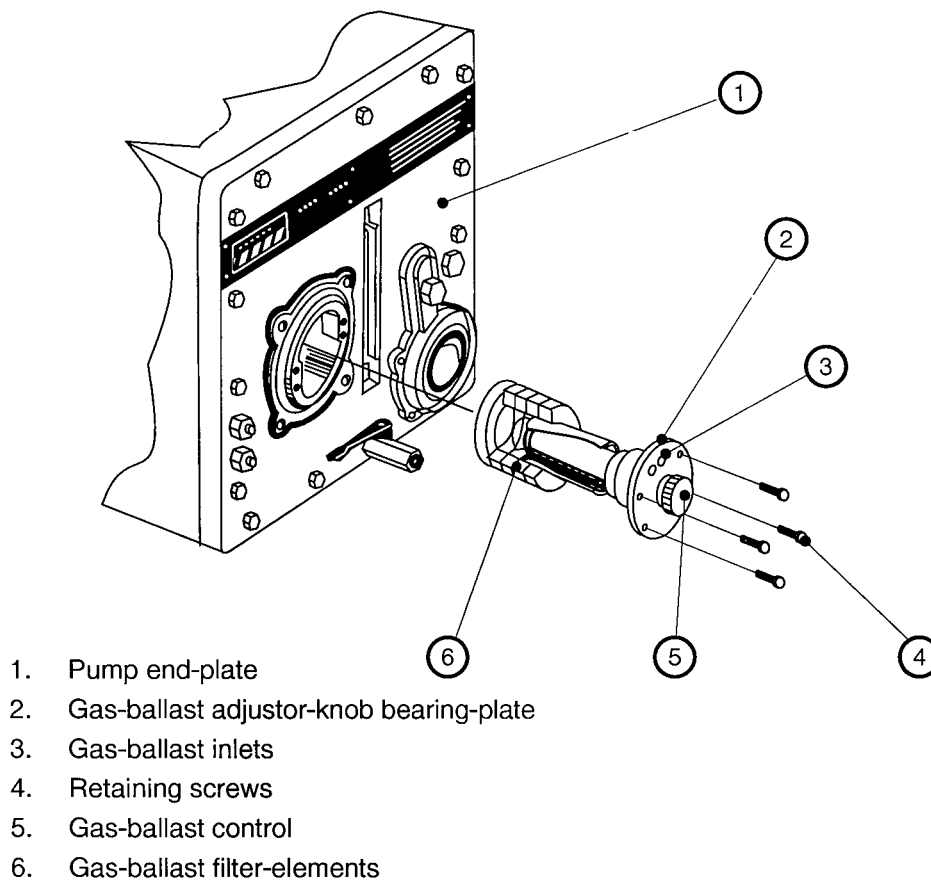

Figure 7 - Remove and replace gas-ballast filter-elements
You must replace the gas-ballast filter-elements every time you change the oil in the pump (see Figure 7).
3. Unscrew and remove the four retaining screws (4) securing the gas-ballast adjustor-knob bearing-plate (2).
4. Withdraw the adjustor-knob bearing-plate from the pump end-plate (1).
5. Replace the felt filter-elements (6). There are five for E1M175S/275S (see Figure 7) and two for E2M175S/275S pumps. Clean the assembly before re-fitting new filter-elements by washing in a suitable cleaning solution. Allow the assembly to dry .
6. Fit the filter-elements. Replace the assembly and secure with the four retaining screws (4).